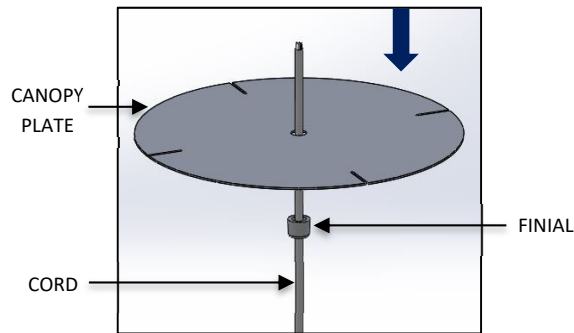

FIG. 14 – CANOPY PLATE AND FINIAL INSTALLATION
4. Pass the FINIAL and the CANOPY PLATE through the CORD as shown in FIG. 14 below.